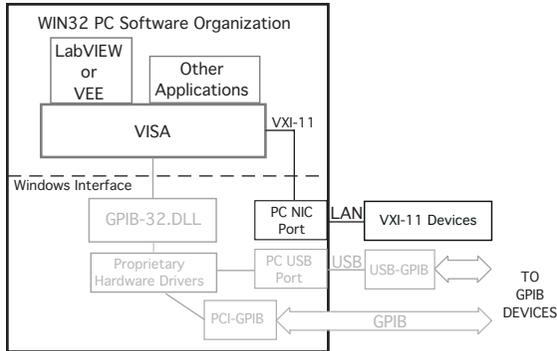

Figure 3-2 VISA to VXI-11 Communication Path
VISA libraries provide a standardized application interface for user programs and outputs that communicate with standard hardware ports such as PC COM ports, PCI bus, and USB ports. VXI-11 compliant VISA libraries provide VXI-11 calls over the TCP/IP network to communicate with VXI-11 instruments as shown in Figure 3-2. Agilent, Kikusui and National Instruments (NI) provide VXI-11 capable VISA and SIDL libraries. While all three VISA libraries run in WIN32 operating systems, VISA libraries variations are available for some UNIX, LINUX and other operating systems.